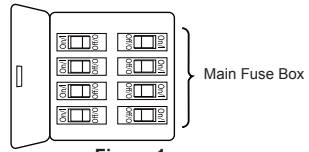
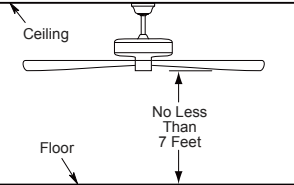

Figure 1
Figure 2
Your new ceiling fan will require a grounded electrical supply line of 120 volts AC, 60 HZ, 15 Amp Circuit. Electrical code requires use of a fan-rated outlet box to support the extra weight and motion associated with a ceiling fan. A fan-rated box will be labeled as such and typically supports up to a 70lb ceiling fan. Fan-Rated Outlet Boxes vary in ratings and design. Ensure the ratings of your ceiling fan outlet box meet the requirements for the ceiling fan being installed. Figure 1, Figure 2 and Figure 3 depicts different structural configurations that may be used for mounting the outlet box.
Low profile box (Figure 1)
Deep box (Figure 2)
- 1. Remove the hanger ball portion from the downrod/hanger ball assembly by loosening the set screw in the hanger ball until the ball falls freely down the downrod. Remove the pin from the downrod, then remove the hanger ball. Retain the pin and hanger ball for reinstallation in Step 6. (Figure 1)
- 2. Remove the hairpin clip and clevis pin from the bottom of the downrod. Retain the pin and clip for reinstallation in Step 4. (Figure 2)
To avoid possible fire or shock, be sure electricity is turned off at the main fuse box before hanging. (Figure 1)
The fan must be hung with at least 7' of clearance from floor to ceiling fan. (Figure 2)
1. To set the code on receiver unit, slide dip switches to the same positions as set on the remote control. (Figure 1)
To avoid possible electrical shock, be sure electricity is turned off at the main fuse box before wiring. (Figure 2)